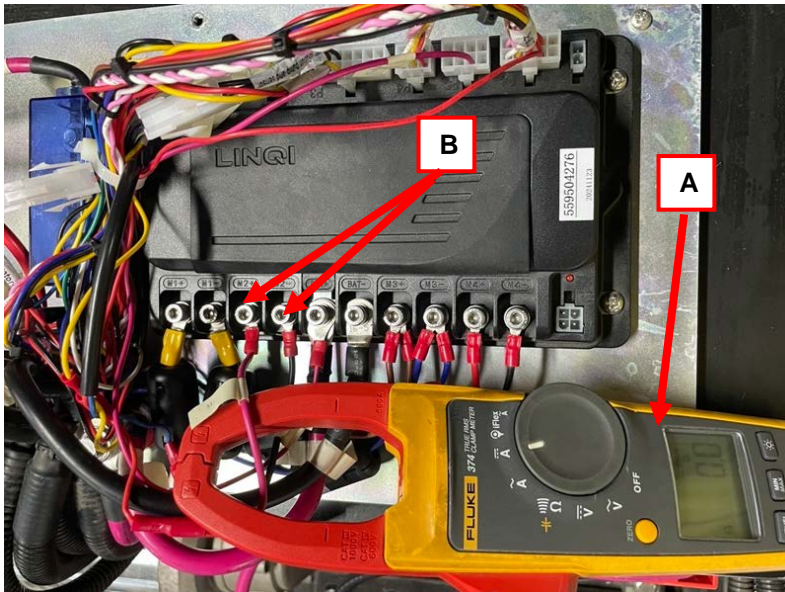

Figure 61
1. Apply amp clamp (A, Figure 61) to one of the suction motor cables (B, Figure 61).